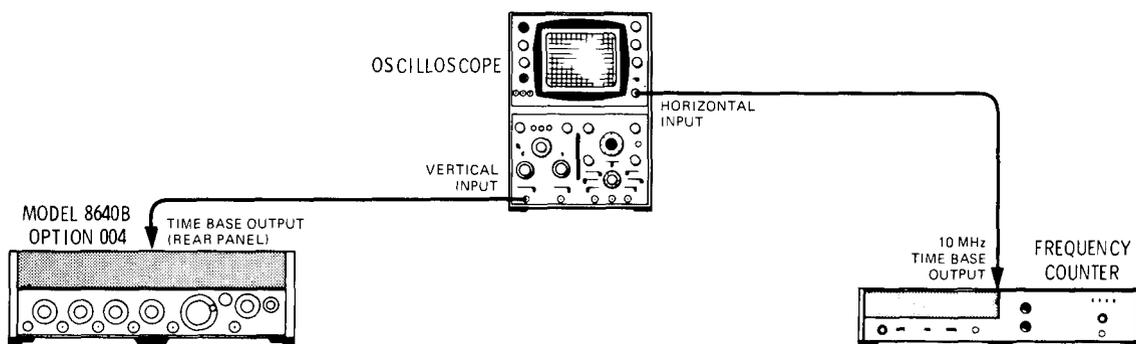

Figure 5-15. Internal Reference Frequency Adjustment Test Setup
2. Connect equipment as shown in Figure 5-15 after setting Signal Generator's controls as follows: